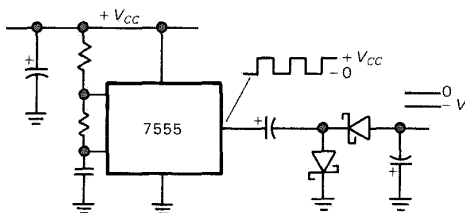

Figure 14.23. Negative-voltage generator from a positive square wave.
3. Figure 14.23 shows a simpler method, again somewhat limited in voltage range, using the CMOS 7555 timer chip. You can power the 7555 from a positive supply in the range 2 to 18 volts, thus generating up to -15 volts or so. With a voltage multiplier (see Section 1.28) you can, of course, generate higher voltages, with correspondingly poorer regulation. If you have some CMOS logic in your circuit, you can use the output of a CMOS gate instead of the 7555. However, if you’re using a high-performance CMOS family such as HC/HCT or AC/ACT, then you are limited to 5 volt logic swings, whereas the older 4000 or 74C series permit 15 volt swings, albeit at lower current.